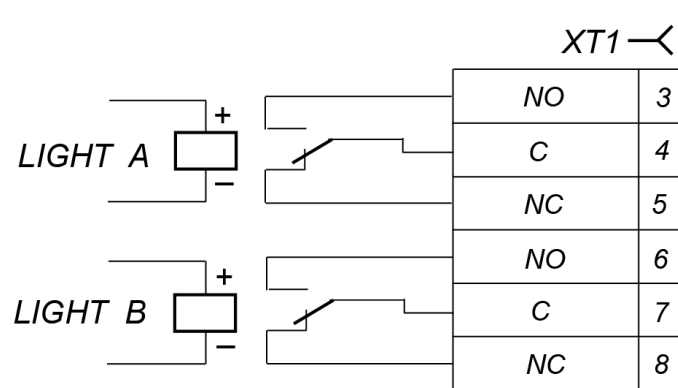

Figure 9. Output stages for Light A and Light B
The *Light A* and *Light B* outputs are used for remote indication connection and are basically relay changeover contacts (see Fig. 9). Each output has a full contact set on the **XT1** terminal block: normally open (NO), normally closed (NC), and common (C). Connection is performed in accordance with the electrical connection layout given in Fig. 11.